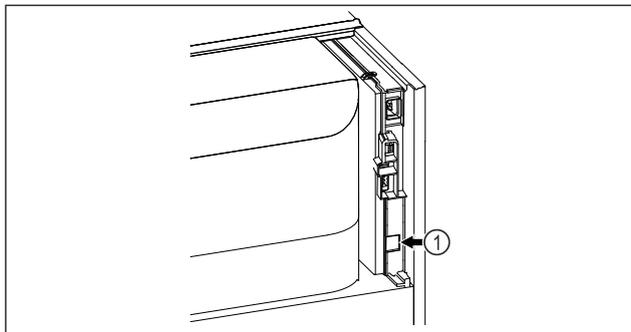

Fig. 172
- SmartModule Fig. 172 (1) is in use.